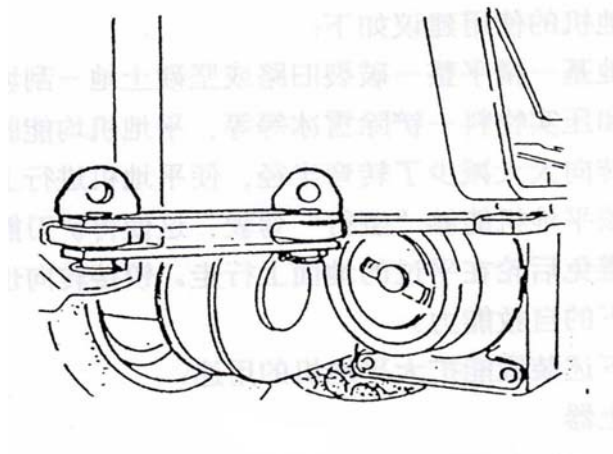

Fig.28
The articulating frame steering is controlled by a control lever (See 7.5.1). Before steering with the articulation, remove the safety lever (Fig.28) under articulated cylinders firstly.
4. Insert the safety lever and fix the articulated steering mechanism of grader(Fig.28).